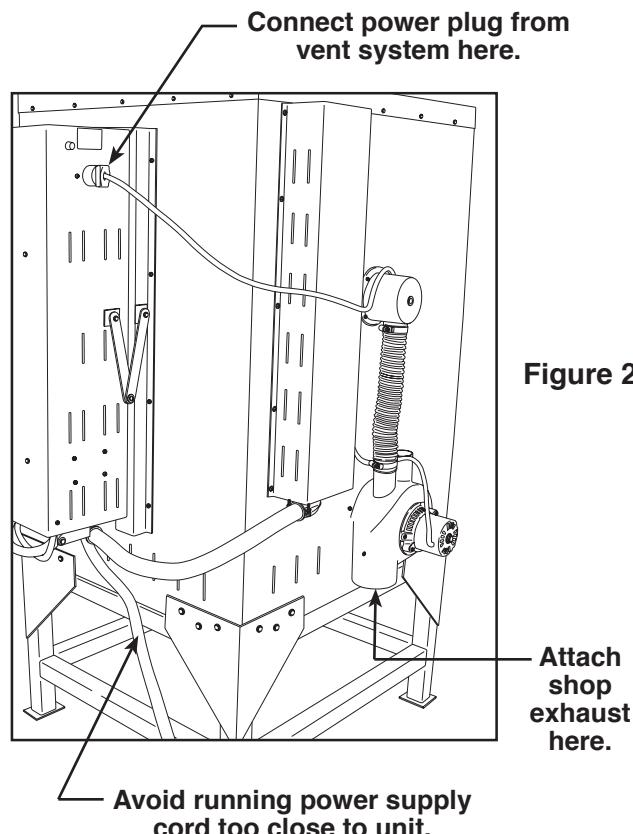

Figure 2
1. Connect shop exhaust to the standard 102 mm (4-inch) connection on the bottom of the vent system. See Figure 2.
1. Connect the power plug from the vent system to the outlet on the control box. See Figure 2.